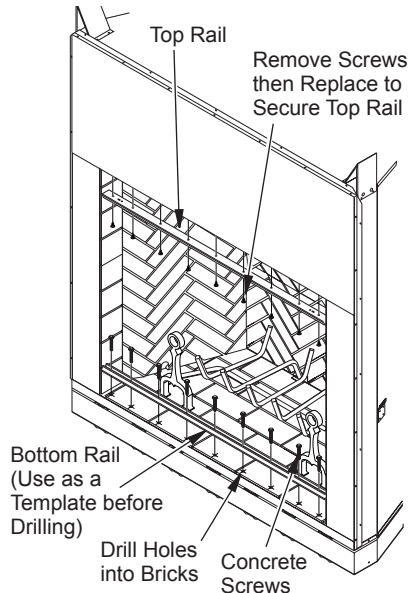

Figure 22 - Securing Door Rails to Fireplace
1. Remove screws securing top face to firebox (see Figure 22).
3. Using remaining door rail as a template, place along front row of bricks at bottom making sure rail front surface is flush with fireplace bottom face surface. Mark hole centers and remove rail (see Figure 22).